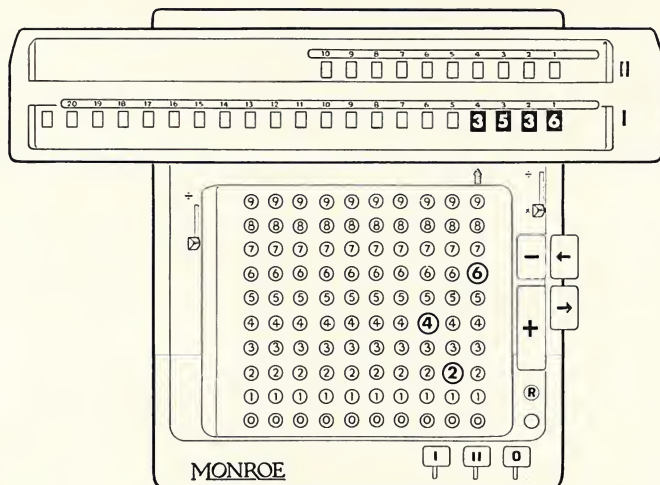

Figure 25
Step 4—On the keyboard set the next multiplier, 427, LESS 1, or 426. The reason for dropping the 1 is that 3536 is already in the lower dials, which is the same as being multiplied by 1. Figure 25 shows the Monroe at this step.